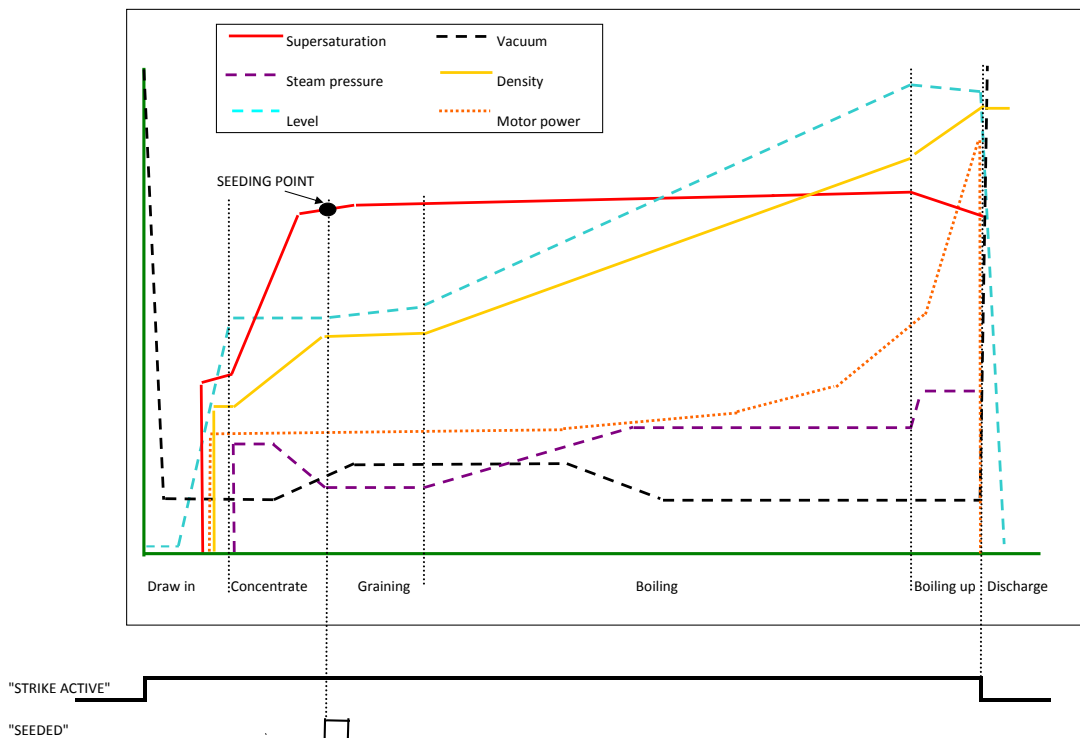

Figure 3.1 Digital inputs
- manually by the operator (pan-man) *without using the “MANUAL SEEDING” feature of SeedMaster 3, the device must be notified on the seeding of the pan by a digital input lasting for at least 20 seconds.* In this case information may come in the form of a digital input signal, or via Modbus communication from an independent control system (DCS). Figure 3.1 shows digital input signals versus time.